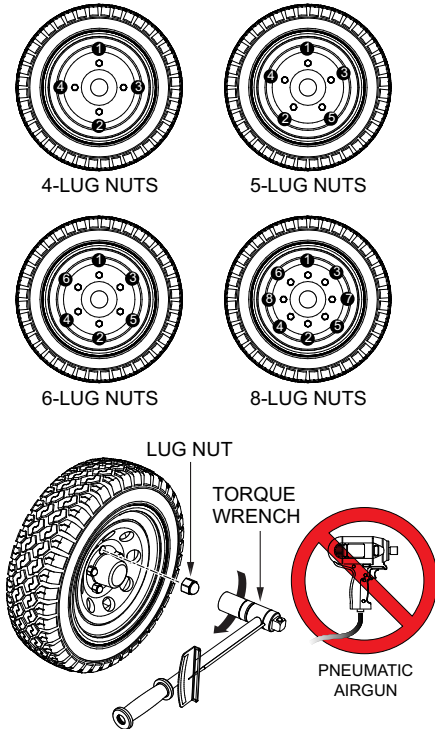

Figure 51. Wheel Lug Nuts Tightening Sequence
2. Torque (tighten) all lug nuts in sequence (Figure 51). **DO NOT** torque the wheel lug nuts all the way down. Torque each lug nut in **3 separate passes** as defined in Table 11.